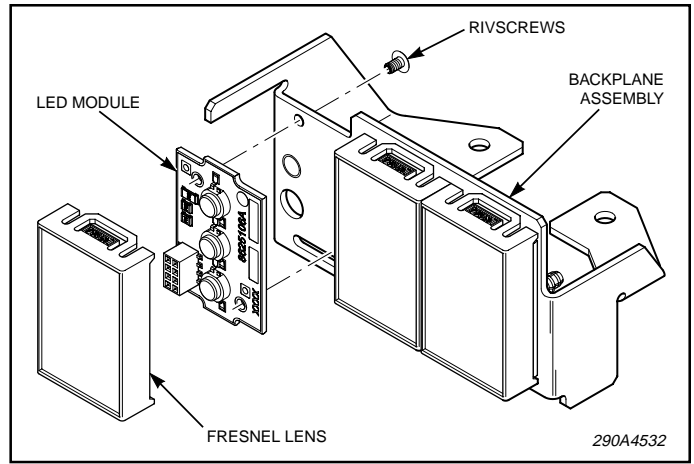

Figure 7.
- e. See figure 7. Remove and discard the Rivscrews retaining the LED module to the backplane. Remove the LED module.